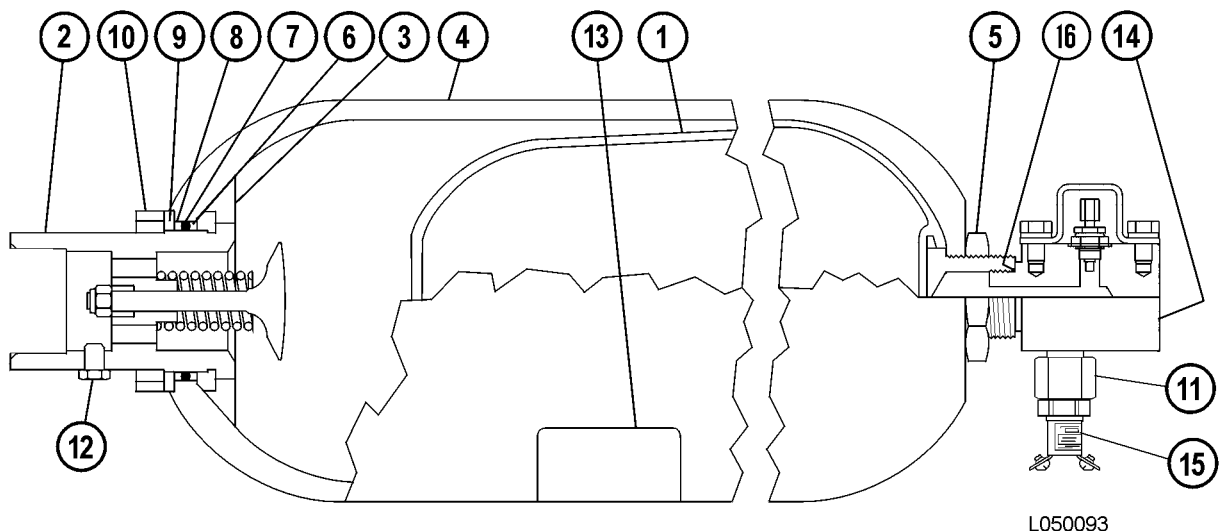

FIGURE 6-18. ACCUMULATOR ASSEMBLY
1. After shell (4, Figure 6-18) has been cleaned and inspected, place the accumulator shell in a vise or on a table.
7. Once the bladder valve stem has been pulled through the valve stem opening in the shell, install valve stem nut (5) by hand. Remove the bladder pull rod.
8. Use a wrench to hold the bladder valve stem on the flats, then tighten nut (5) securely.
9. If removed, install pressure switch (15) into valve assembly (11). Tighten the switch to  $41 \pm 5 \text{ N}\cdot\text{m}$  ( $30 \pm 4 \text{ ft. lbs.}$ ). Then install valve assembly (11) onto gas valve manifold (14) and tighten it to  $18 \pm 4 \text{ N}\cdot\text{m}$  ( $13 \pm 3 \text{ ft. lbs.}$ ).